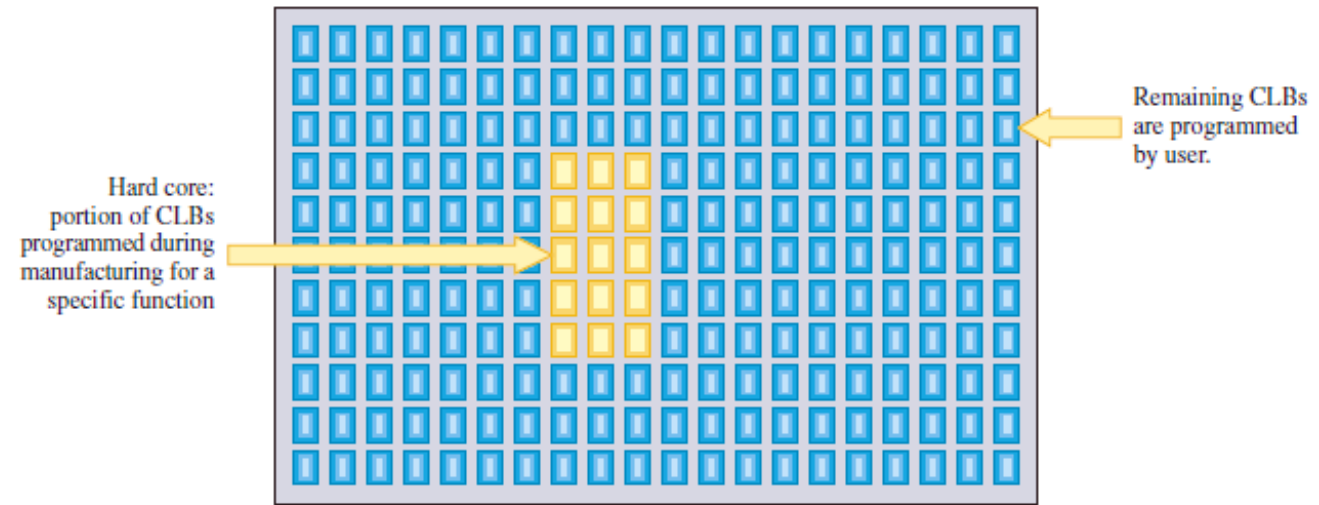

FIGURE 2 Basic idea of a hard-core function embedded in an FPGA.
- More than one hard-core function can be programmed in an FPGA. Figure 2 illustrates the concept of a hard core surrounded by configurable logic programmed by the user. This is a basic embedded system because the hard-core function is embedded in the user-programmed logic.
- Hard core designs are generally developed by and are the property of the FPGA manufacturer. Designs owned by the manufacturer are termed **intellectual property** (IP).